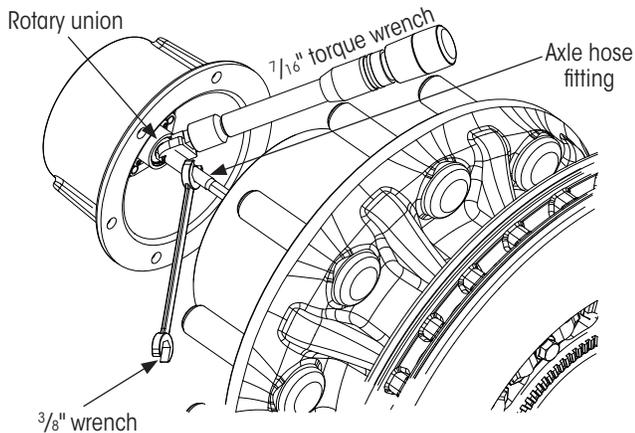

Figure 21: Hubcap to axle hose connection
1. Draw just enough axle hose out from center of spindle to **attach** axle hose fitting to the rotary union inside the hubcap (Figure 21).
4. Using a 3/8-inch wrench to prevent rotation of the axle hose fitting, (Figure 21) **tighten** the rotary union shaft to 50±5 in. lbs. (5.7±0.6 Nm) of torque.